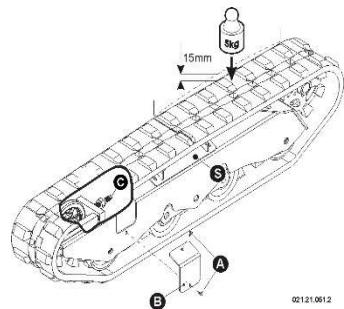

fig. 5.5 - Track Tension Adjustment
- Check that the deflection is 15 mm near the front or rear midpoint relative to the central guide “S” of the track (see fig. 5.5);
- Check that the deflection is 15 mm near the front or rear midpoint relative to the central guide "S" of the track (see fig. 5.5);